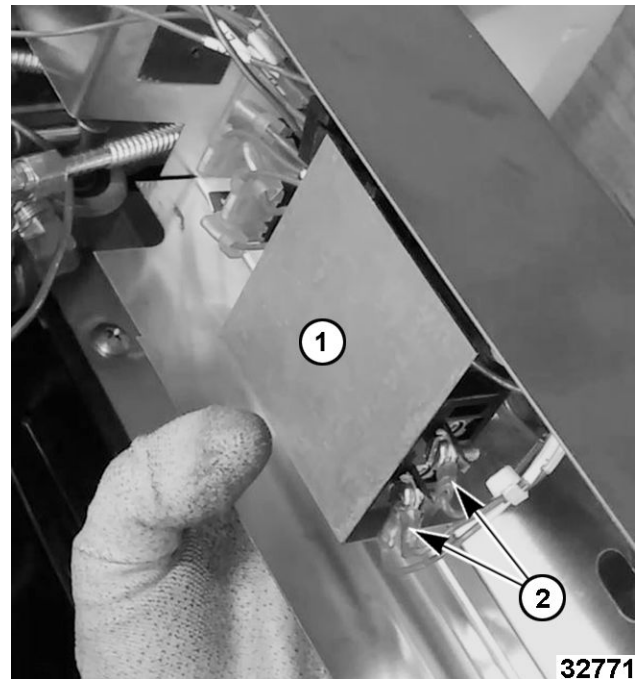

Fig. 33
4. Remove electrical cover (1, Fig. 33). Note and disconnect temperature control electrical connectors (2, Fig. 33).
NOTE: Shield (1, Fig. 33) is installed on previous production units, not on current production.